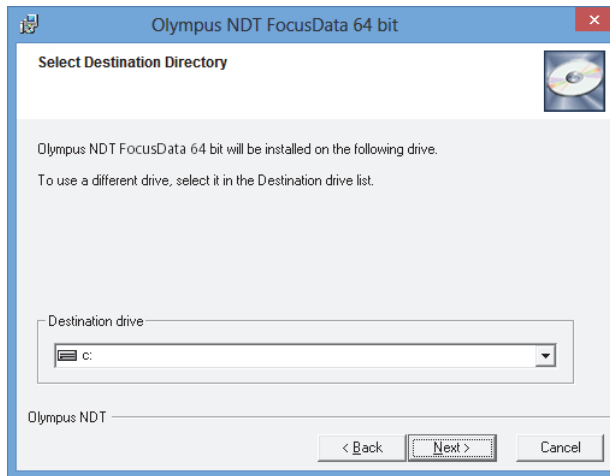

Figure 1-6 The Select Destination Directory page
5. On the **Select Destination Directory** page, under **Destination drive**, select the drive where you wish to install the software, and then click **Next** (see Figure 1-6 on page 16).